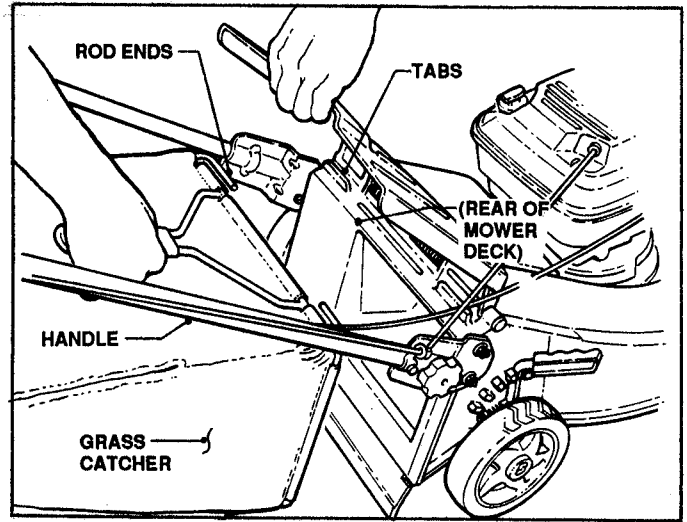

FIGURE 6
3. Grasp handle and hold *Grass Catcher* up while inserting rod ends over tabs at rear of mower deck. See Figure 6.